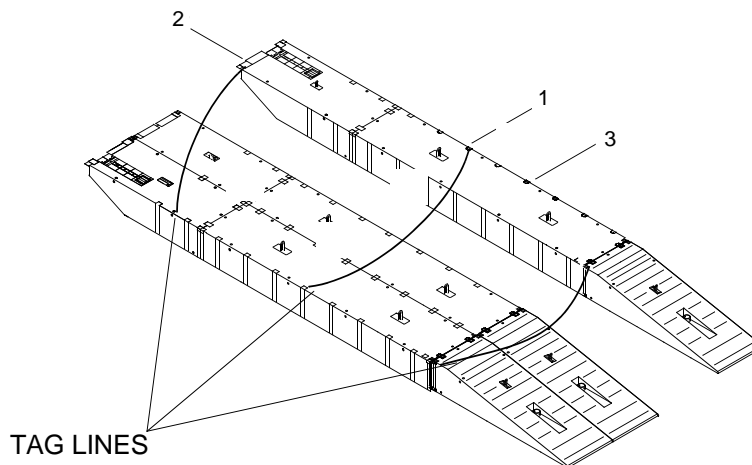

Figure 6. Disassembly of Combination Beach/Sea End Section in Water
1. Attach tag lines to turn tubes (figure 6, item 1) and ISO corner fittings (figure 6, item 2).
3. Using crowbar, separate CBSE sections into module strings (figure 6, item 3).
4. Using tag lines, maneuver module strings (figure 6, item 3) into position for disassembly.